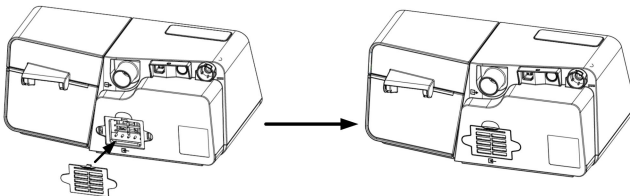

Fig. 19-5
(2) Install the filter cap containing the air filter to the device, as shown in Fig. 19-5.